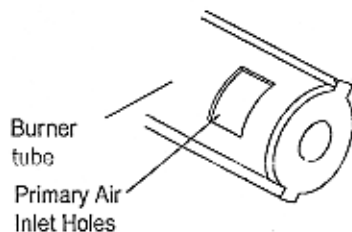

Figure 24-Injector Holder on Outlet Burner Tube
2. Inspect burner, pilot and primary air inlet holes on injector holder for dust and dirt (see Figure 24).